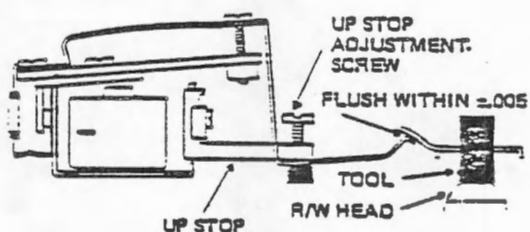

FIGURE 2 HEAD LOAD ACTUATOR UPSTOP ADJUSTMENT
- h. Adjust up stop on actuator so that bail just touches Head Load Arm or has $.005$ " clearance or lifts Load Arm $.005$ ". Reference Figure 2.